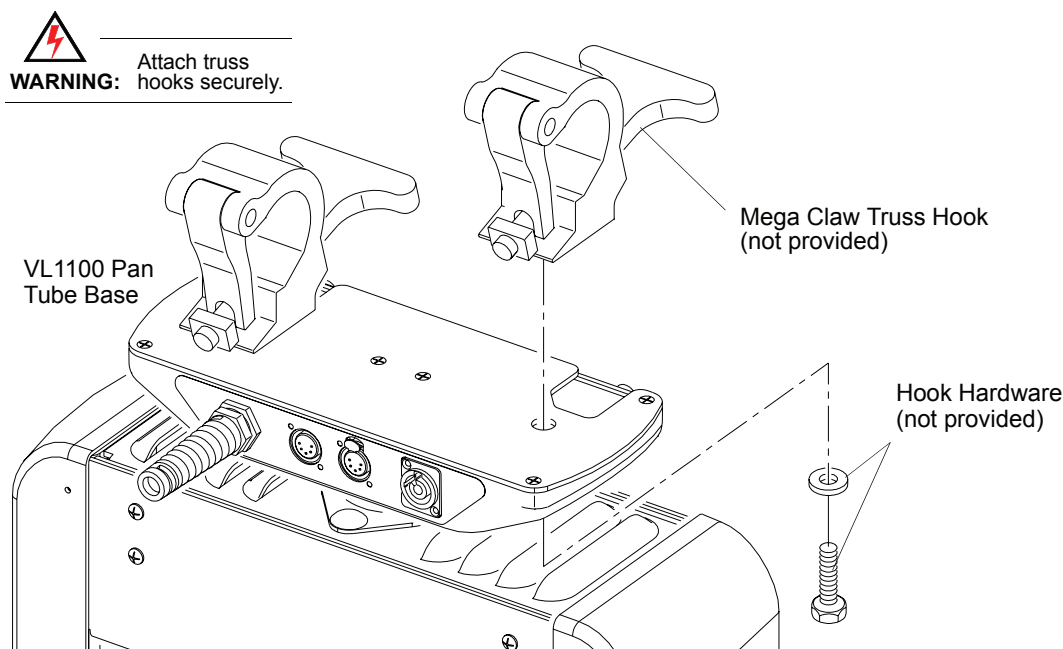

Figure 2-9: Example VL1100 Luminaire Truss Hook Installation
- Step 1. At pan tube base, attach two truss hooks as shown below (Figure 2-9).